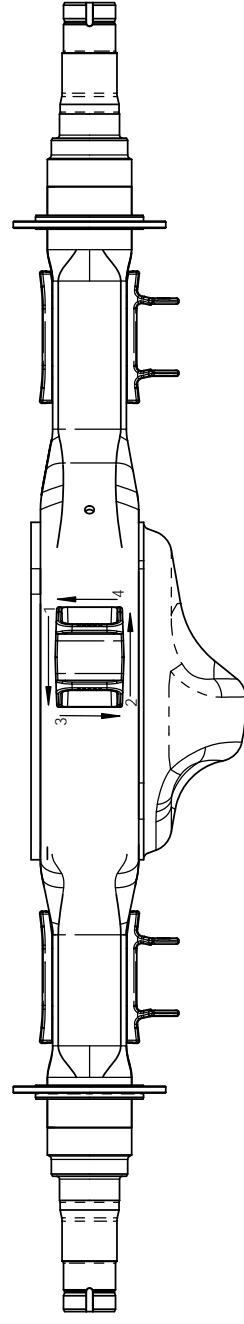

FIGURE 4
- 2) ROTATE AXLE SO THAT FRONT AND REAR FACES ARE AT 45° WHEN WELDING AS SHOWN IN FIGURE 4 (NOTE: ROTATE TO OTHER SIDE WHEN WELDING THE REAR)